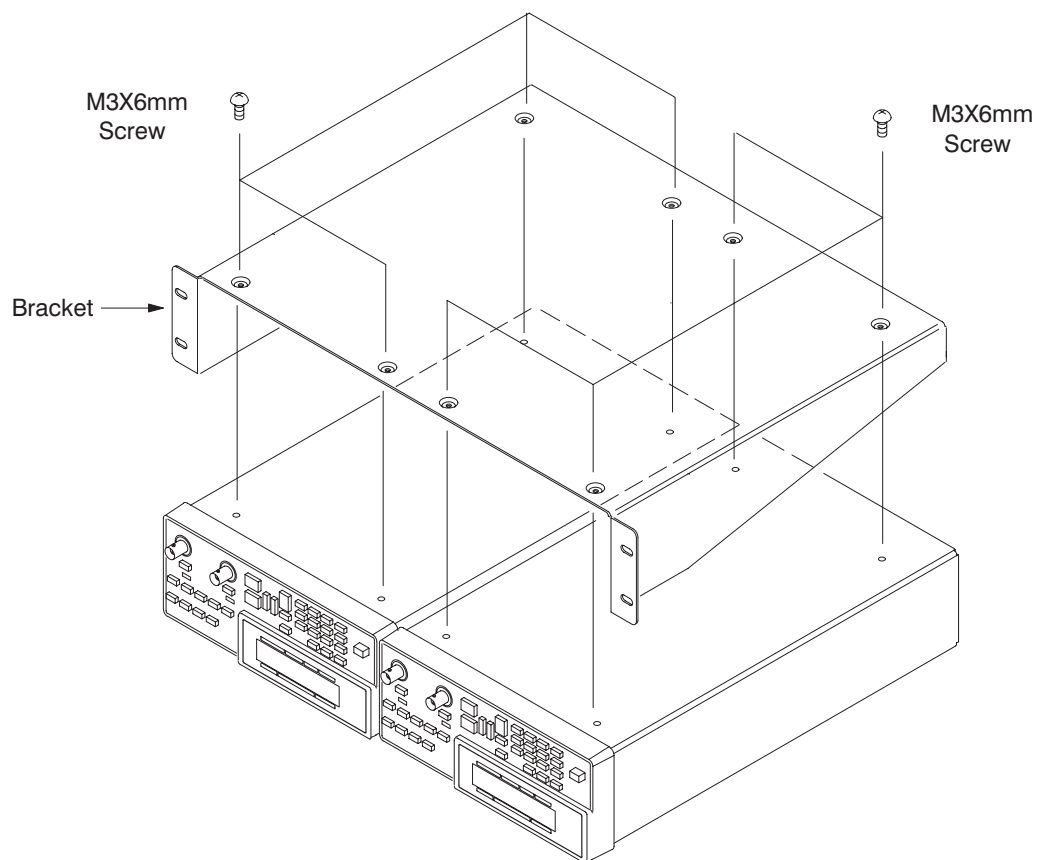

Figure 6: Attaching bracket to two instruments
2. Put the bracket on the two instruments and align the bracket screw holes with the instruments screw holes. See Figure 6.